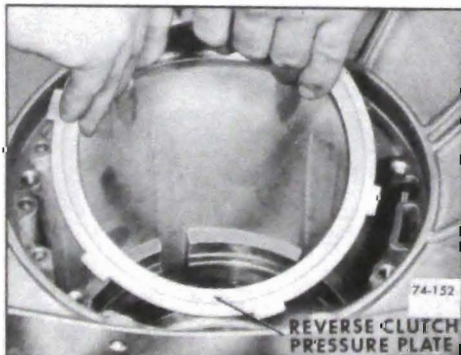

Figure 74-294
8. Install reverse clutch pressure plate with the identification mark being installed in the 5 o'clock groove in case. See Figure 74-294.